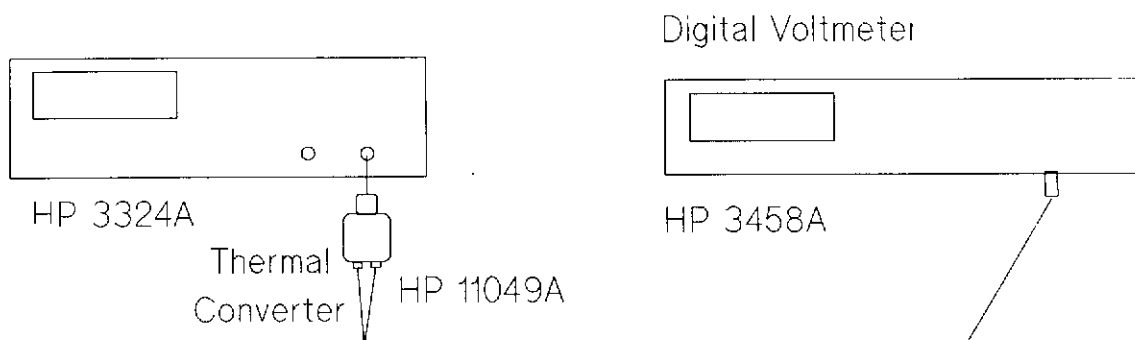

Figure C-7. Amplitude Flatness Test Set-Up
- Connect the equipment as shown in Figure C-7 (the thermal converter should be connected directly to the HP 3324A), and set the DVM to measure DC voltage.